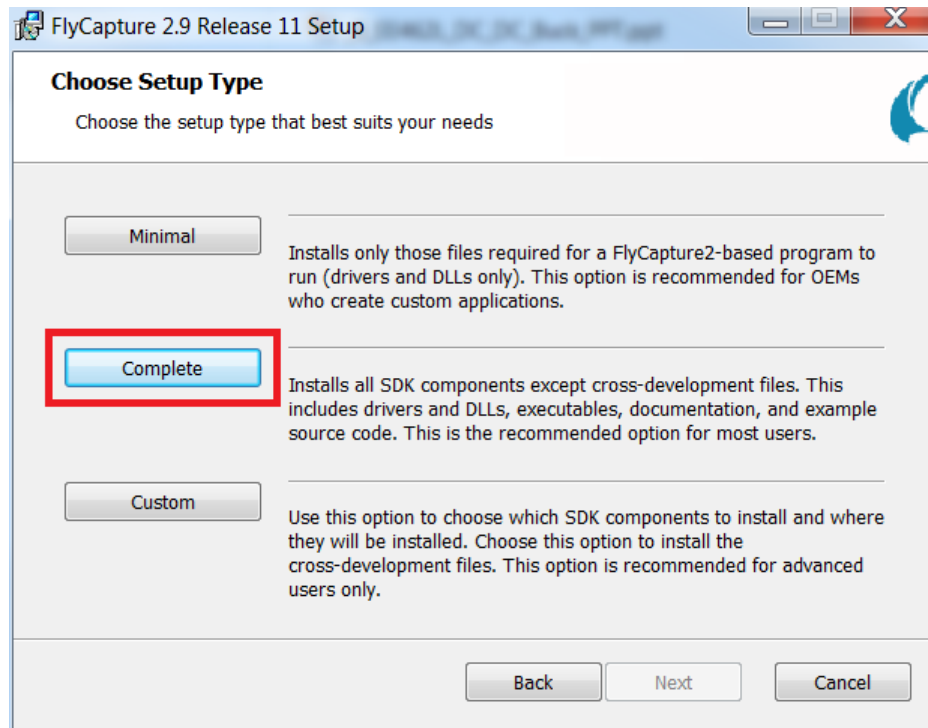

Figure 2-8. FlyCapture2 SDK Installation Options
8. Click the button labeled "Complete" to install the entire FlyCapture2 SDK, shown in Figure 2-8.